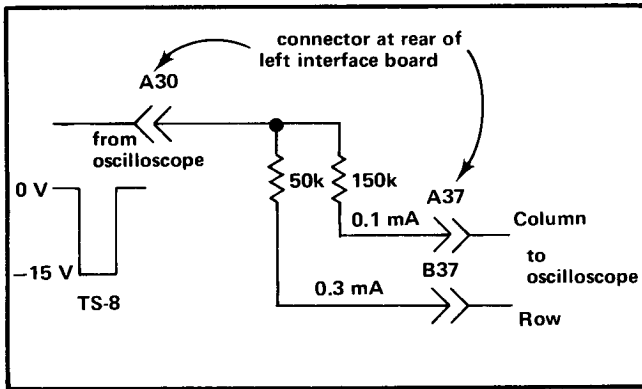

Fig. 3-10. Basic readout logic circuit.
The readout logic in the 7S12 provides the necessary time-slot current to operate the Scale Factor readout on the indicator oscilloscope. Currents supplied from the 7S12 controls the display of appropriate symbols. The circuit used to determine row and column current is basically as shown in Fig. 3-10.
**Introduction.** An input trigger from an S-series pulse generator or trigger recognizer is fed to the base of Q508 (see Fig. 3-10 and schematic diagram 5). This results in the turn-on of Q504. A positive pulse appears at the collector of Q504 while it is turned on.